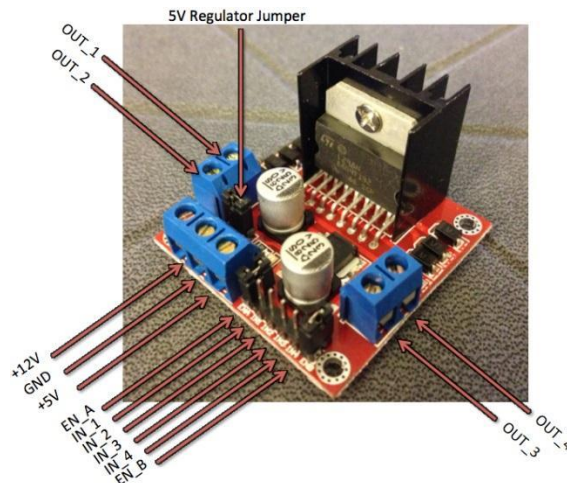

Figure 3. L298N Motor Drive Board
2. Be sure that the jumpers are present on the 5V regulator, AND the enable (EN_A and EN_B) headers (refer to Figure 3 if you are unsure where they are located). Skip to step 4 if your jumpers are present.